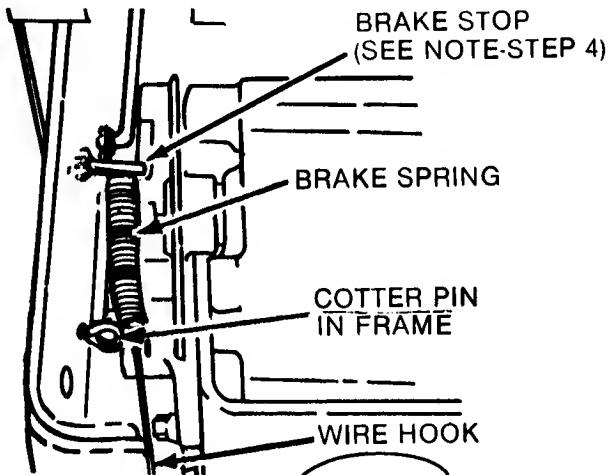
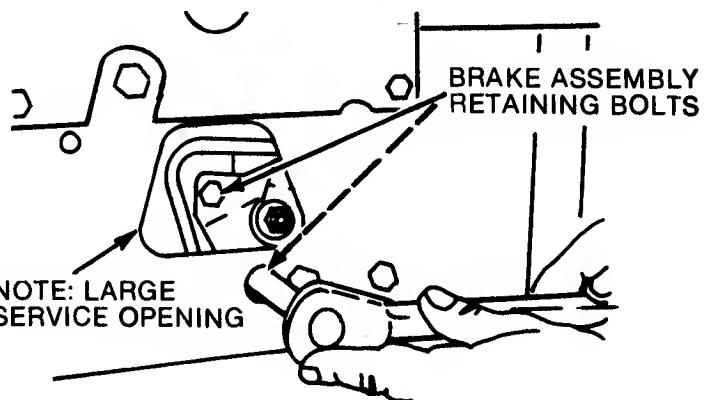

FIG. 3.1--BRAKE SPRING & STOP DETAIL
FIG. 3.2--BRAKE ASSEMBLY REMOVAL
2. Disconnect the brake spring from the cotter pin in tractor frame (Figure 3.1).
3. Remove the two bolts that hold the brake assembly to the transmission (Figure 3.2).
NOTE: If the brake disc has to be replaced, it will be necessary to saw $3/8"$ off the end of the brake stop stud which is welded to the frame directly behind the brake actuating arm as shown in figure 3.1. The brake assembly also has to be removed. This requires the large access hole shown in figure 3.2.
8. Reconnect the brake spring to the cotter pin in tractor frame (Figure 3.1).